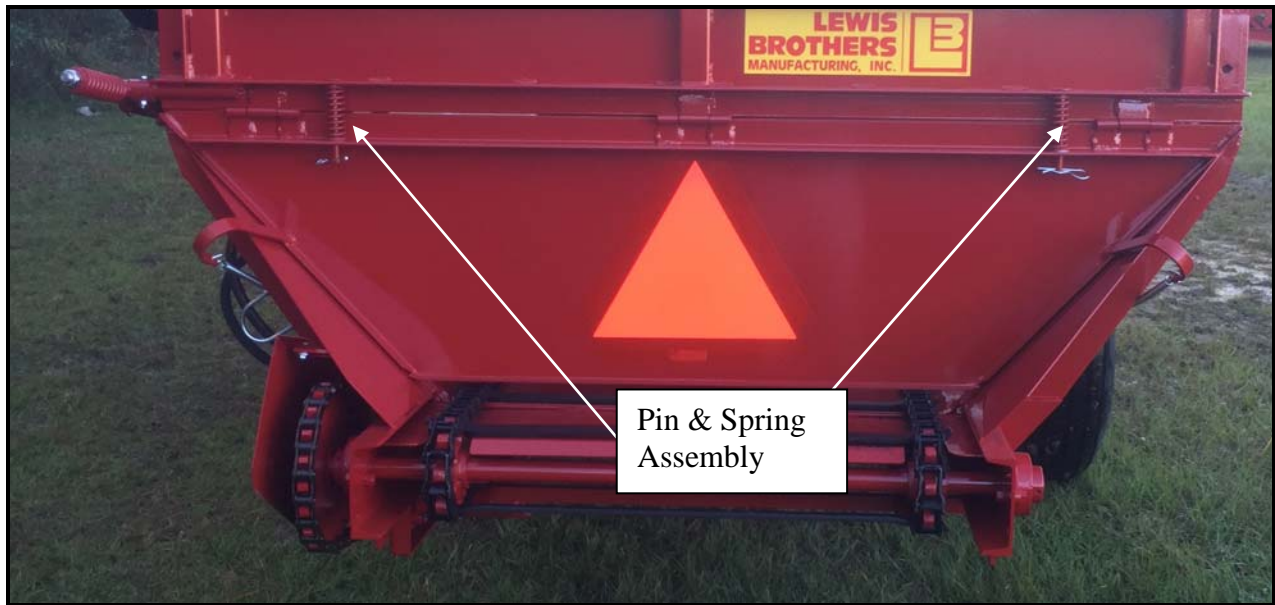

Figure 3
2. The center springs and pins should be installed between the upper and lower sections of the tailgate as shown in (figure 3). This will cause the tailgate to become rigid and function as one piece while litter is being transferred rearward. Failure to install these properly will result in improper unloading of litter.